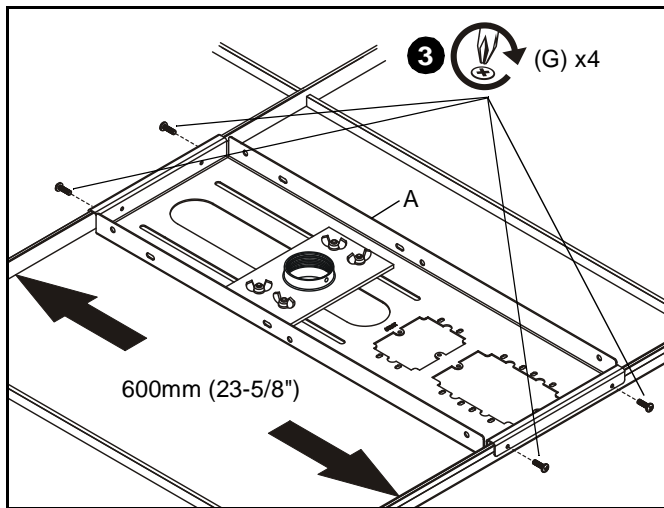

Figure 8
- For 600mm (23-5/8") Framework: Install screws through end bracket *outside* holes (See Figure 8).